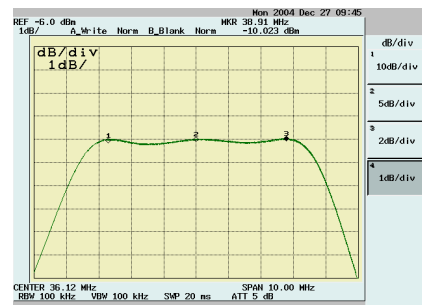
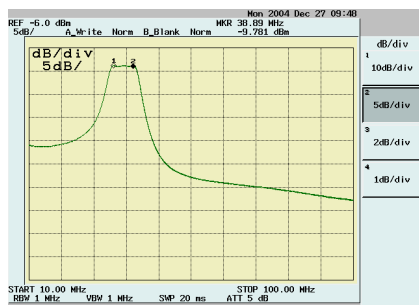

Fig. 4
Fig. 5
- ☐ Set **JP3**, **JP4** and **JP5** on and check the response of the filter curve (Fig.4) to the desired passing band, if needed retouch **R3**, **R5** and **R7** to correct the ripple in band and **C1**, **C3** and **C4** to equalise the group delay of the filter obtaining a frequency response as in Fig.5.